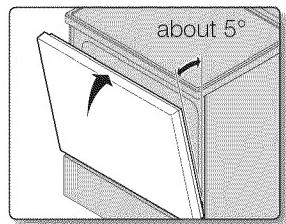

Fig. 1
- Close the door to the door removal position, which is approximately 5 degrees from vertical (Fig. 1).